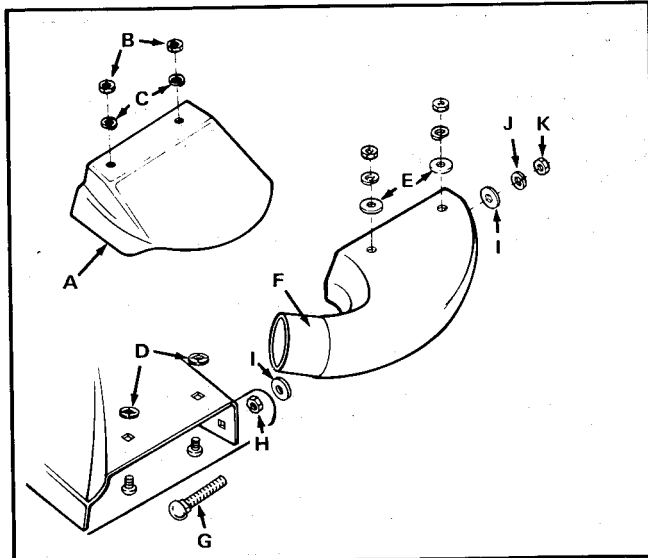

Figure 2. Installing 42" Adapter
1. To remove the mower deflector, remove the nuts and lockwashers (items B and C, figure 2) which hold it in place. These will be used again.